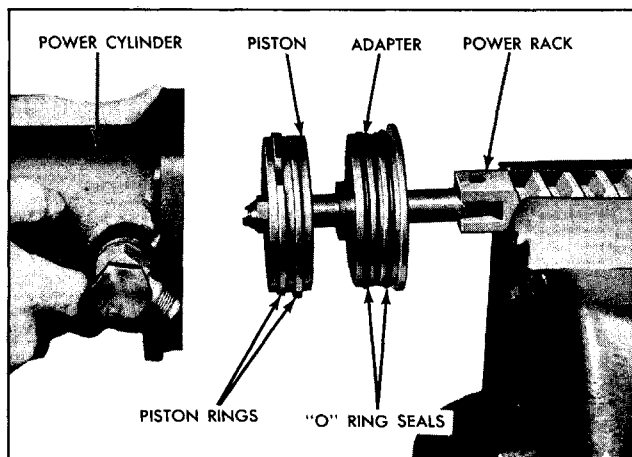

Fig. 9-34 Removing Cylinder From Adapter and Piston
1. Place power rack in a vise with jaws against sides of rack and pull cylinder off adapter and piston assembly (Fig. 9-34). Do not place machined surfaces of rack in jaws.